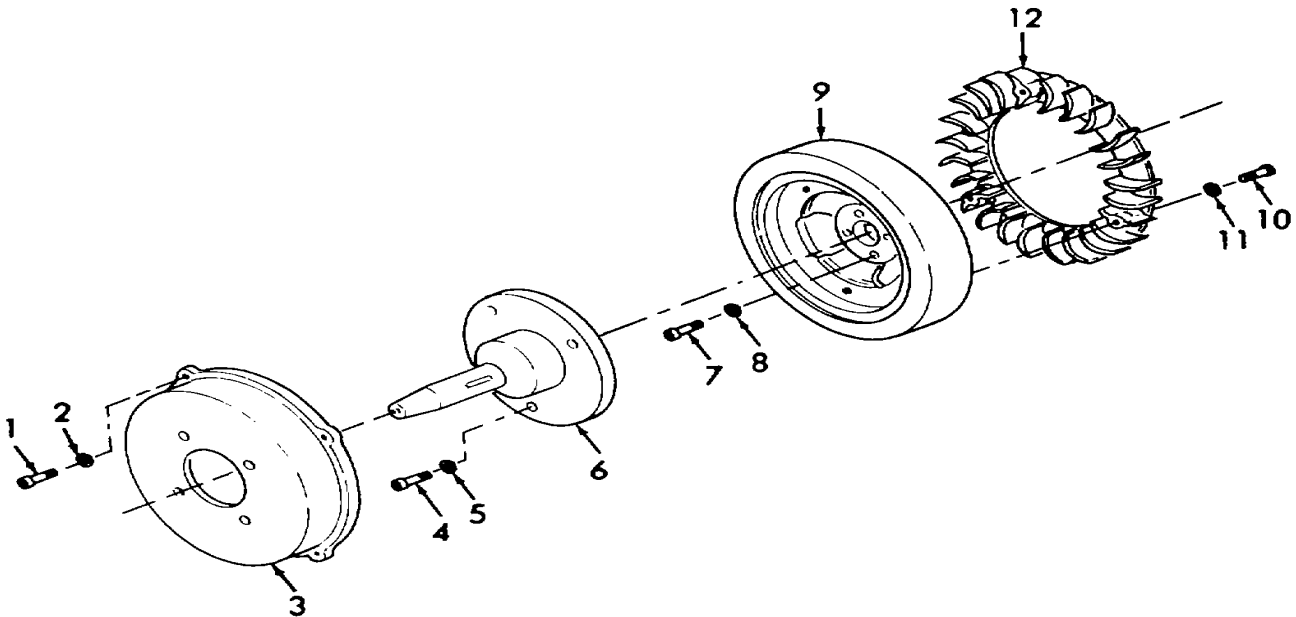

Figure 5-31. Flywheel Removal/Installation.
a. Removal. (Refer to figure 5-31).
- (1) Remove four screws (1), four lockwashers (2), and housing (3).
- (2) Remove three screws (4), three lockwashers (5), and stub shaft (6).
- (3) Remove four screws (7), four lockwashers (8), and flywheel (9).
- (4) Remove six screws (10), six lockwashers (11), and blower ring (12).